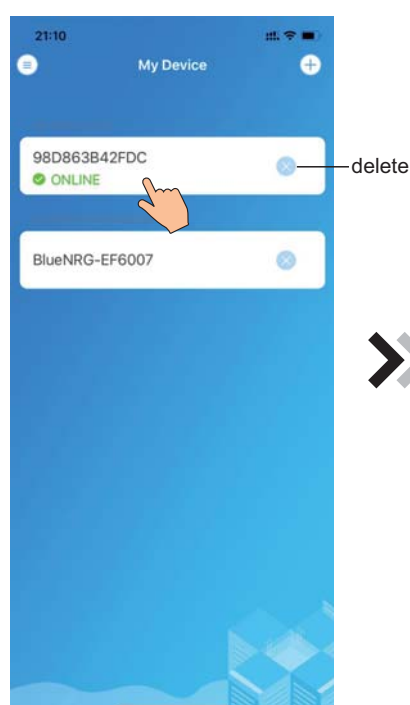

Fig.17 Device management interface
6. After WIFI and DTU bonding is done, and jump back to My Device(Fig. 17).